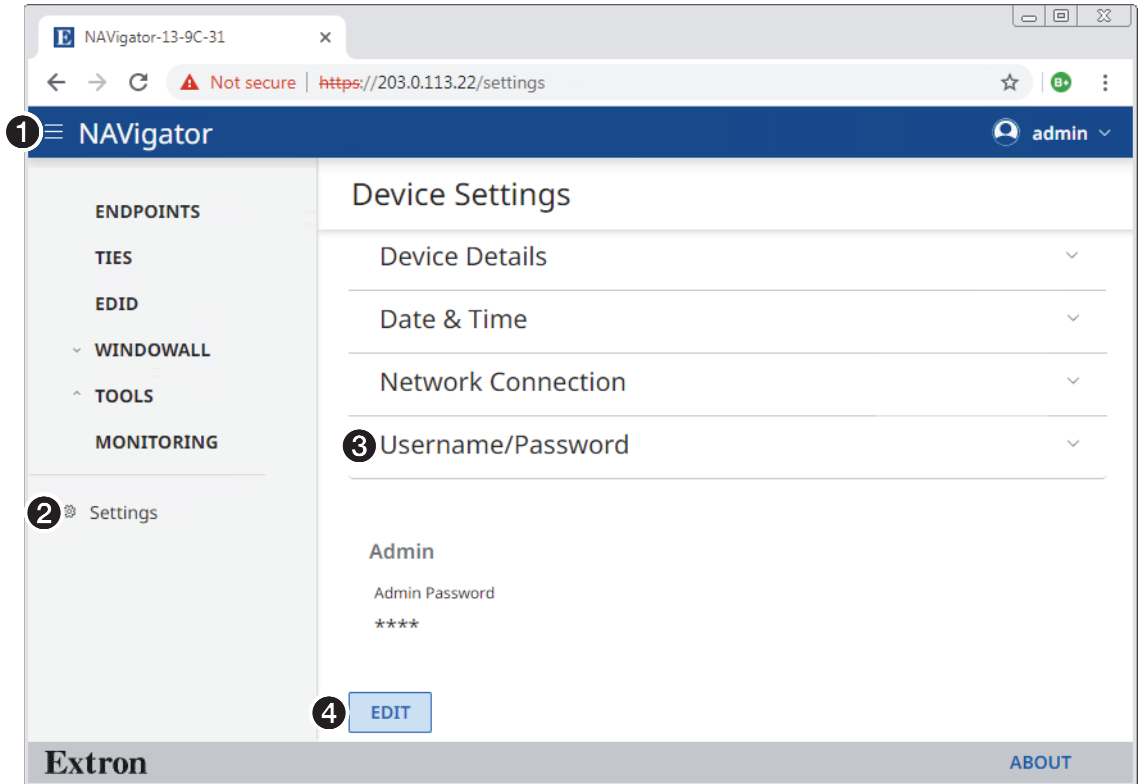

Figure 108. Username/Password Page
1. If necessary, click the **Menu** icon (see figure 108, ❶).